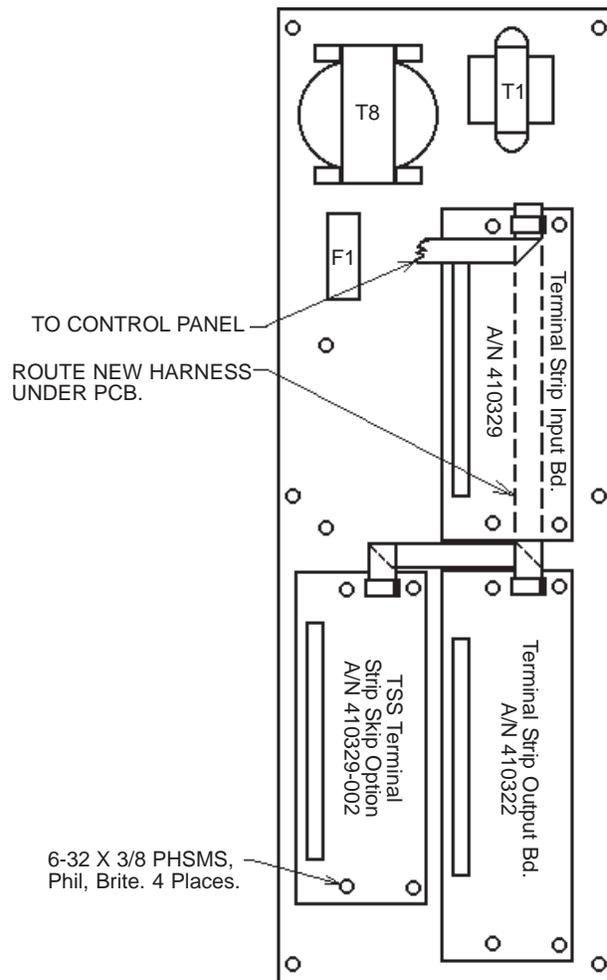

Figure E4. Mounting detail for
3. Mount External Terminal Strip Skip PCB (A/N 410329-002) to existing spacers using four (4) 6-32 x 3/8 PHSMS, Phil., Brite. See Figure E4.